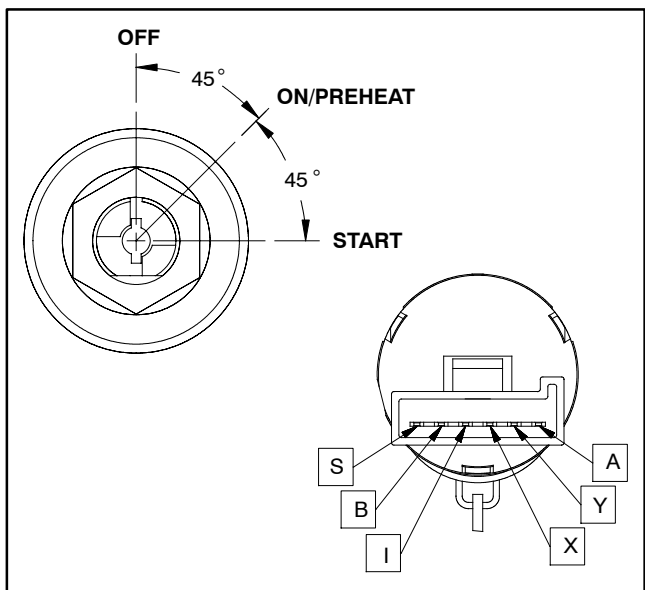

Figure 31
4. With the use of a multimeter (ohms setting), the switch functions may be tested to determine whether continuity exists between the various terminals for each ignition switch position. The ignition switch terminals are marked as shown in Figure 31. The circuitry of this switch is shown in the chart below. Verify continuity between switch terminals.